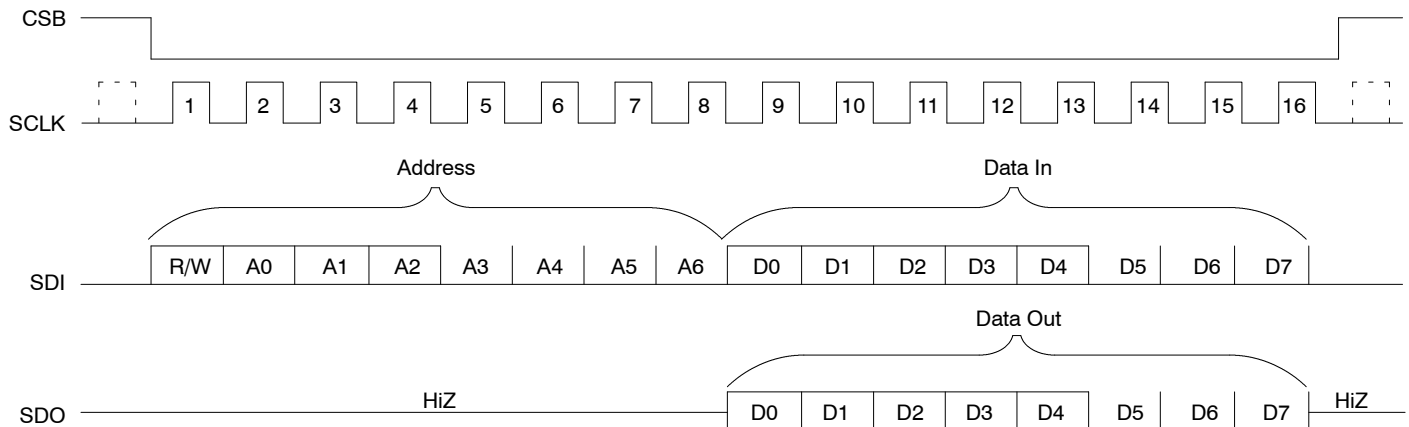

Figure 4. Serial Processor Interface Data Structure
The following instructions, for using the serial interface, are best understood by referring to the diagram in *Figure 4*.
Once the last address bit (A2) has been clocked into the SDI input, the read operation will proceed through an idle period, lasting four SCLK periods. On the falling edge of SCLK Cycle “8” (See Figure 4) the serial output signal (SDO) becomes active. At this point the user can begin reading the data contents of the addressed command register (at Address A2, A1, A0) via the SDO pin. The SDO pin will output this five bit data word (D0 through D4) in ascending order, with the LSB first, on the rising edges of the SCLK pin.
Once the last address bit (A2) has been clocked into the SDI input, the write operation will proceed through an idle period, lasting four SCLK periods. Prior to the rising edge of SCLK Cycle #9 (See Figure 4) the user must begin to apply the eight-bit data word, that he/she wishes to write to the serial input interface onto the SDI input pin. The microprocessor serial interface will catch the value on the SDI pin on the rising edge of the SCLK. The user must apply this word (D0 through D7), serially, in ascending order with the LSB first.
2. Each Read or Write operation, with the Serial Interface, will require 16 SCLK periods, as depicted in Figure 4.